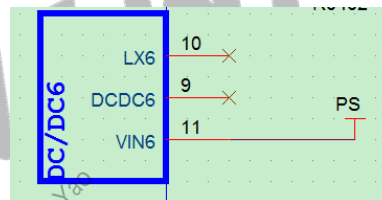

Figure 2-5 AXP707 DCDC6
- The input and output filter capacitors of each DCDC and LDO that are not used by the PMU can be deleted in the actual solution application, but the input power supply must be maintained, such as DCDC6 shown in Figure 2-5.